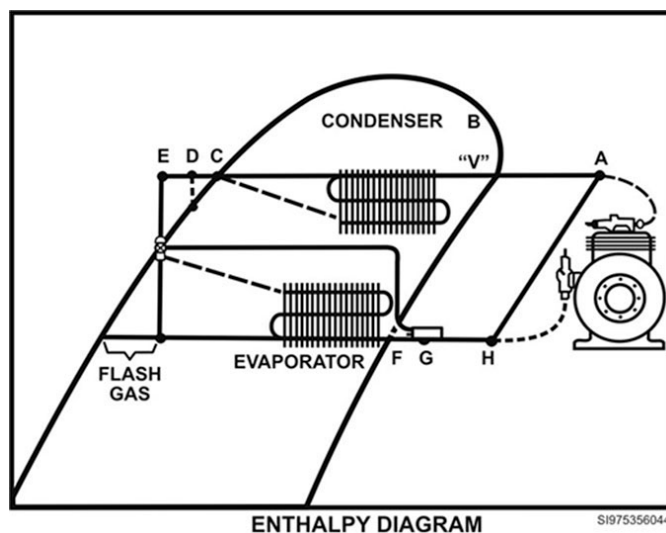

Figure 4-4. Refrigeration cycle.
Refrigerant enters the compressor at point H on figure 4-4. Point H is plotted based off the PRESSURE reading taken at the inlet of the compressor. The compressor pumps the refrigerant which exits at point B. Notice the line slopes up and to the right. This means the heat content and pressure are rising. By going to the right, the line represents the increase in enthalpy and by going up it represents the pressure rising. The heat added is from the heat of compression. Remember, the compressor decreases the volume and increases the pressure of the refrigerant. The compressor is drawn in parallel to the constant entropy lines. In this case, entropy, represents the compression process.
For this lesson segment, we use the PE diagram shown in figure 4-4 and the refrigeration diagram in figure 4-4. Using these diagrams, let's go through a simple refrigeration system and see how it is plotted on the PE chart.
You can now use a temperature measuring device and measure the temperature at the following places (fig. 4-4).
- At the outlet of the condenser (Point D, figure 4-4).
2. What is represented from point “A” to point “V” in figure 4-4?
10. According to figure 4-4, what is the point G?
11. According to figure 4-4, what is the point E?
12. According to figure 4-4, what is represented by points A and H?
13. According to figure 4-4, from what two points does superheating take place?